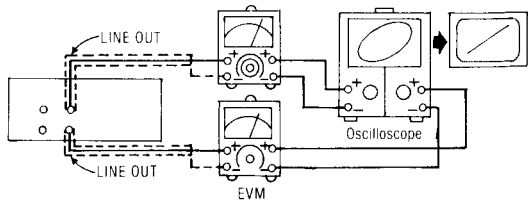

Fig. 1
Procedure 1 → 2 → 8	• Push the eject button (see fig. 1). • Remove the counter belt (mechanism only of Tape 2). • Remove the 4 screws (①~④).  Front Panel Counter Belt ① ② ③ ④ Fig. 9
1. Test equipment connection is shown in Fig. 1.